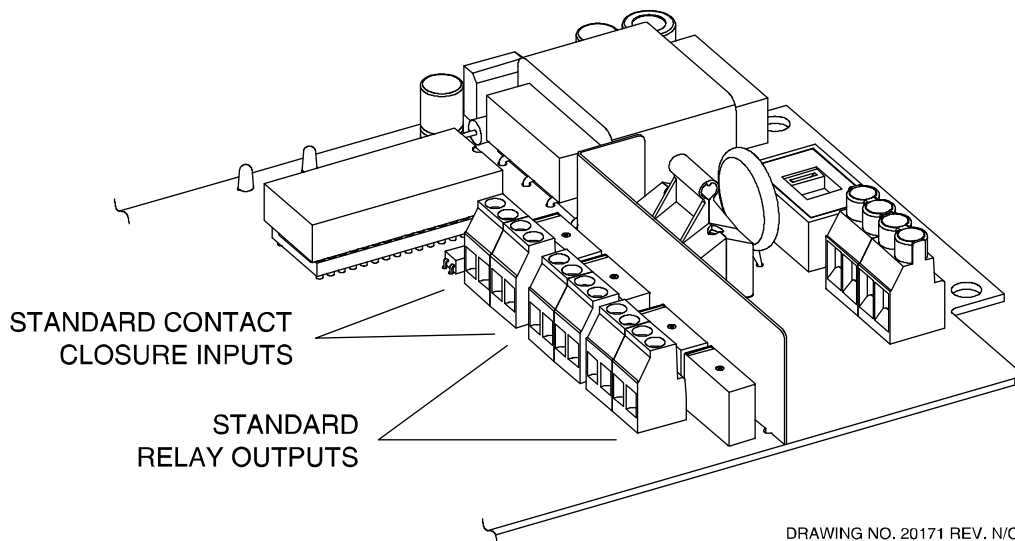

Figure 3-4 - Relay Output/Contact Closure Input Layout
The standard TMS1000N includes two (2) dry contact closure inputs and four (4) relay contact closure outputs as illustrated in Figure 3-4 below.